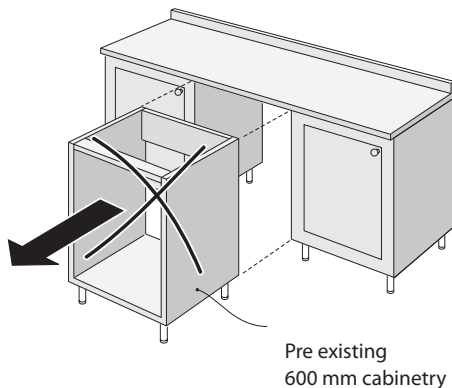

Fig. 27
- **Installation "B" between Side Cabinets by Removing Previous Housing (figs. 27, 28)**
Installation "B" between Side Cabinets by Removing Previous Housing (figs. 27, 28)